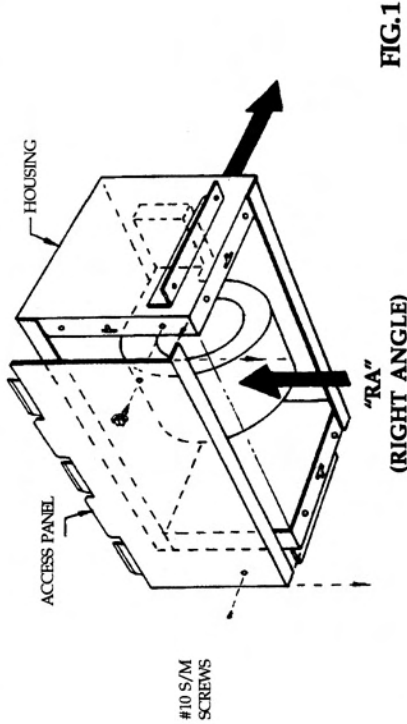

FIG. 1
NOTE: As a standard, fans are furnished with a Right Angle (RA) discharge as shown in Fig. 1.
- 1) DISASSEMBLE THE ACCESS PANEL FROM THE HOUSING; FIRST REMOVE THE TWO #10 SHEET METAL SCREWS, THEN REMOVE THE PANEL BY PULLING IT TOWARDS THE HOUSING OPENING AS SHOWN IN FIG. 1.